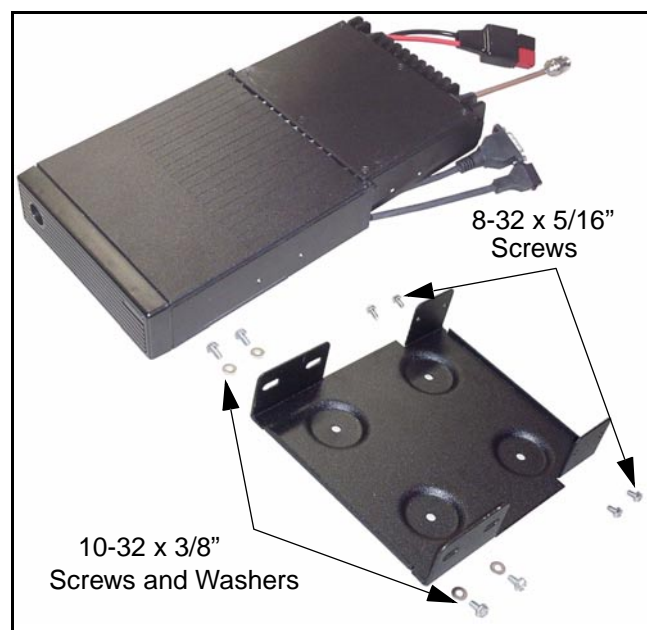

Figure 2-3 100W Transceiver Mounting Bracket
offset. Therefore, it is not intended for applications where it must be above the transceiver such as such as dash mounting. Refer to Figure 2-3 and proceed as follows to mount a 100W front or remote mount transceiver:
2. Mount the transceiver in the mounting bracket using the screws shown in Figure 2-3.